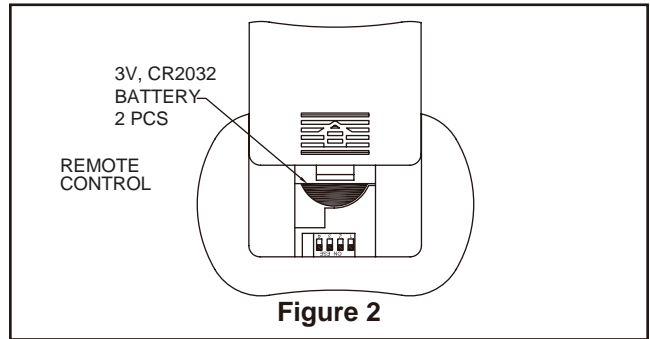

Figure 2
- 2. To make fan operational, install the two 3-volt batteries in hand-held remote transmitter, (if not using for long periods of time, remove batteries to prevent damage to transmitter). Store the remote away from excessive heat or humidity (Figure 2).